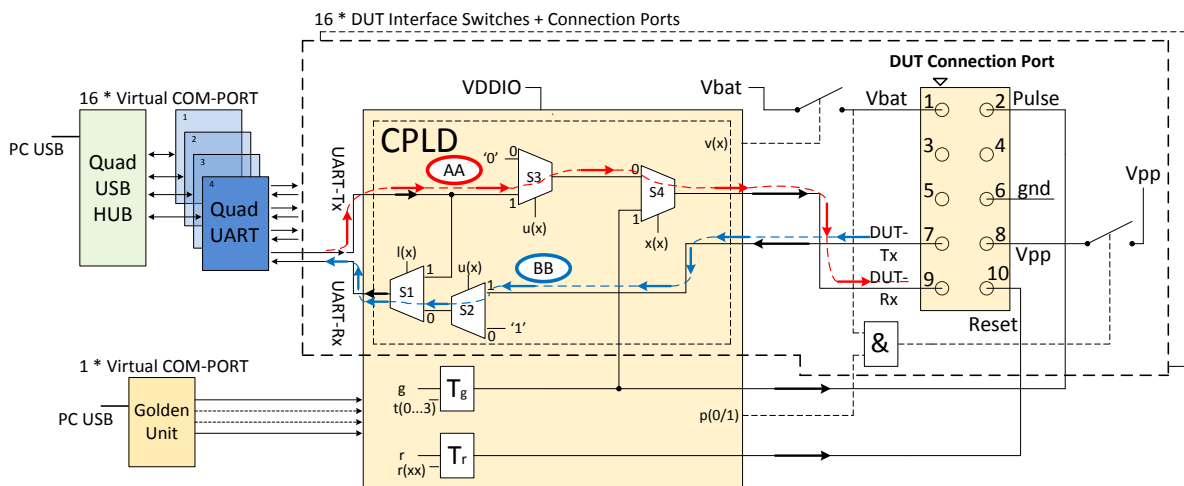
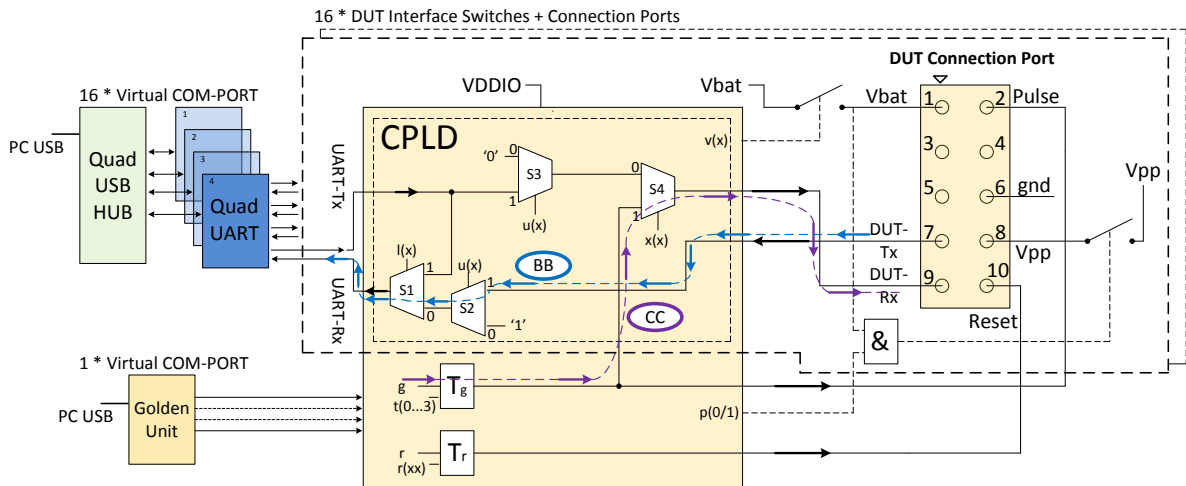
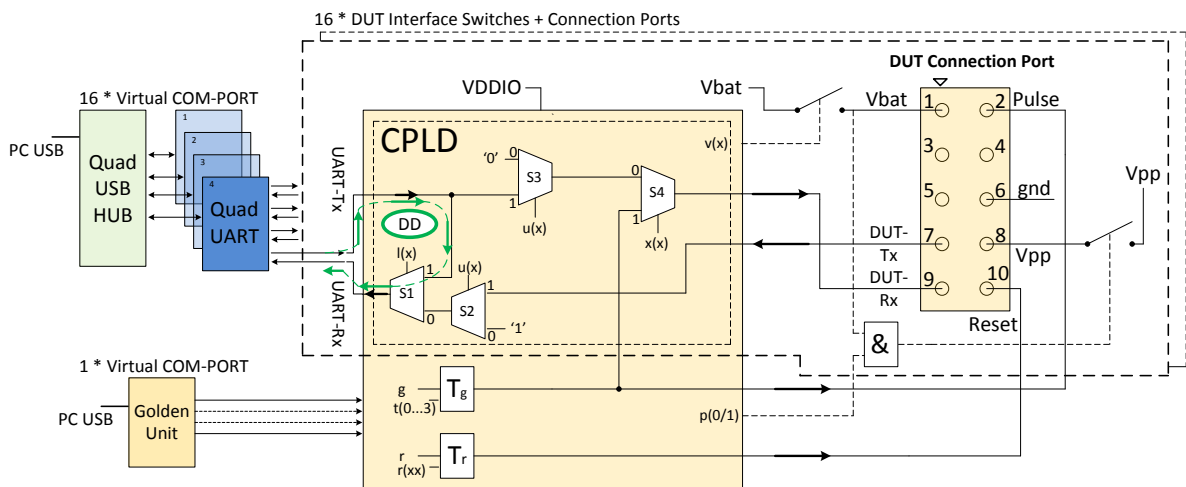

Figure 6: CPLD UART Data Streams
Figure 7: CPLD XTAL Trim Pulse Data Stream
Figure 8: CPLD UART Loopback Data Stream
Figure 6, Figure 7 and Figure 8 illustrate the three possible data streams through the CPLD. The CPLD switches S1, S2, S3 and S4 are controlled by the software via the Golden Unit.
#### Normal Operation (Figure 6):
#### Crystal Trimming (Figure 7):
**Loopback Operation (Figure 8):**